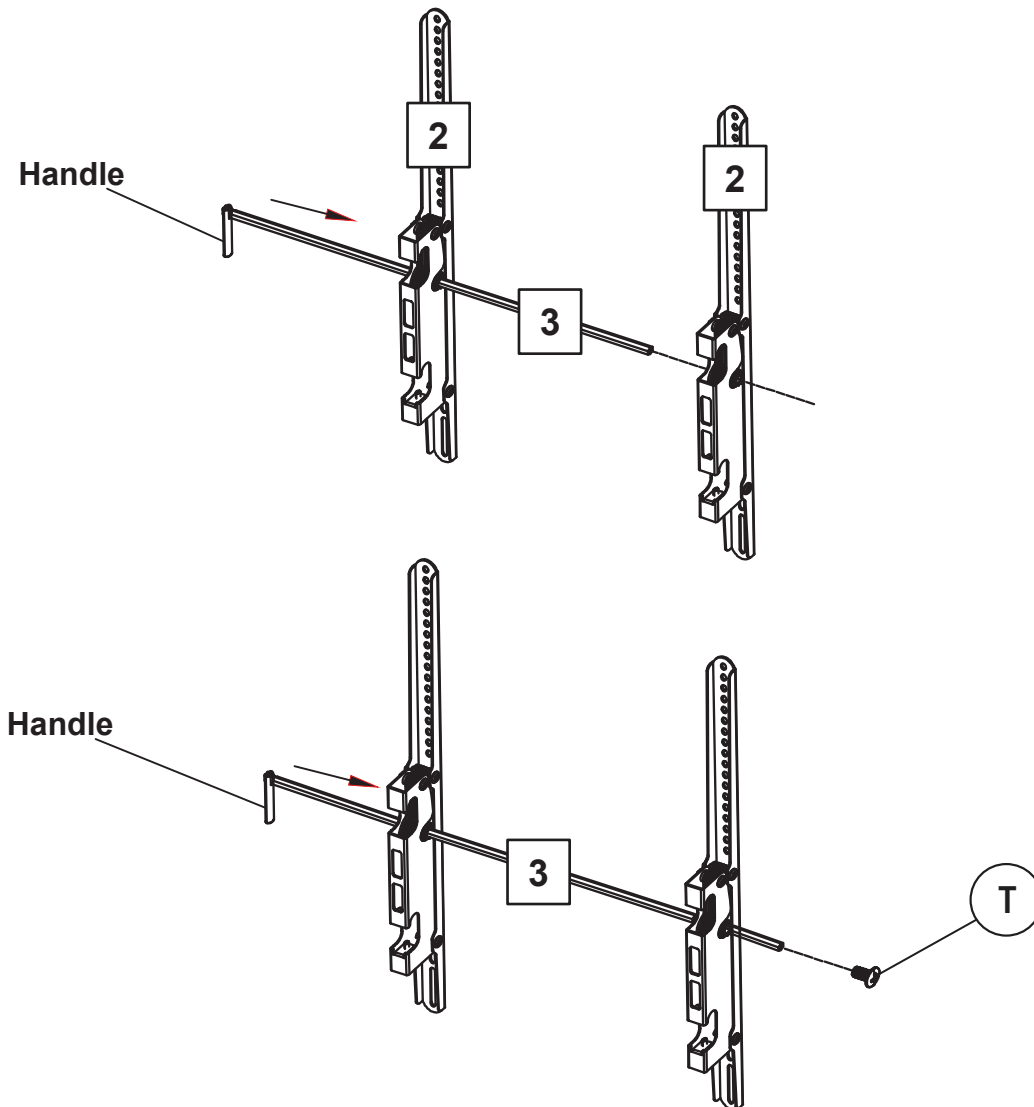

Fig. 1a
Lay the **Brackets (2)** on a flat surface with the flat side laying down. Insert the **Tilt Adjustment Rod (3)** into the outer hole in the side of either **Bracket (2)** as shown in Fig. 1a below.